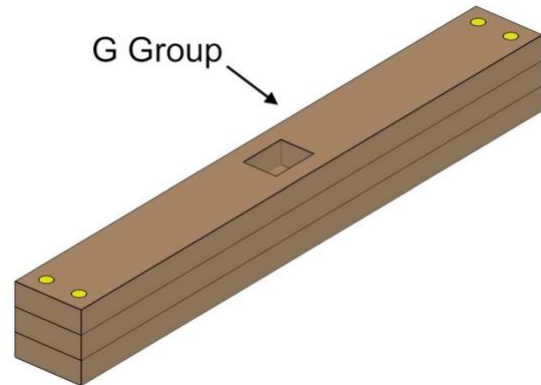

Fig. 26
- Fig. 26 shows the completed process.